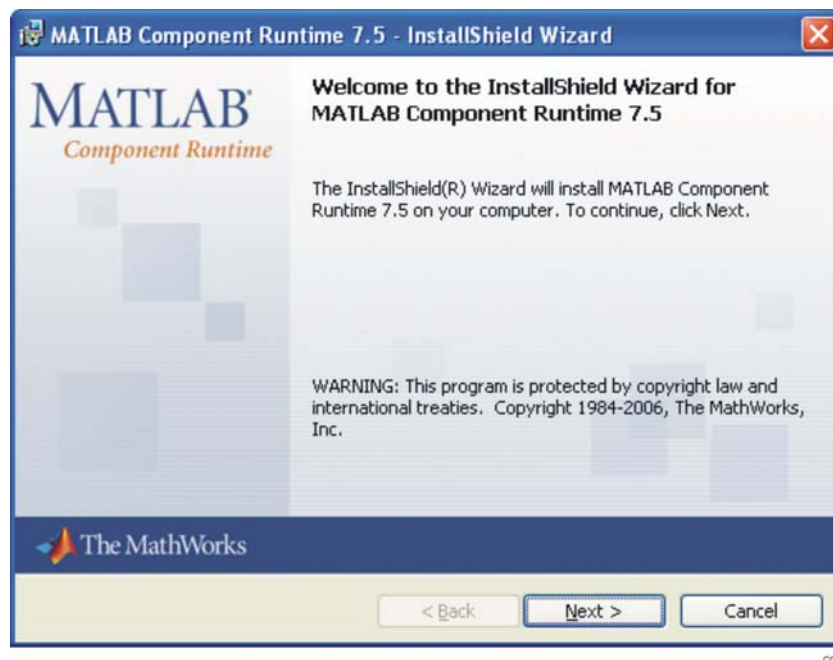

Figure 7. MATLAB Welcome Screen
2. When the *MATLAB Component Runtime 7.5* screen (Figure 7) displays, click *Next*.